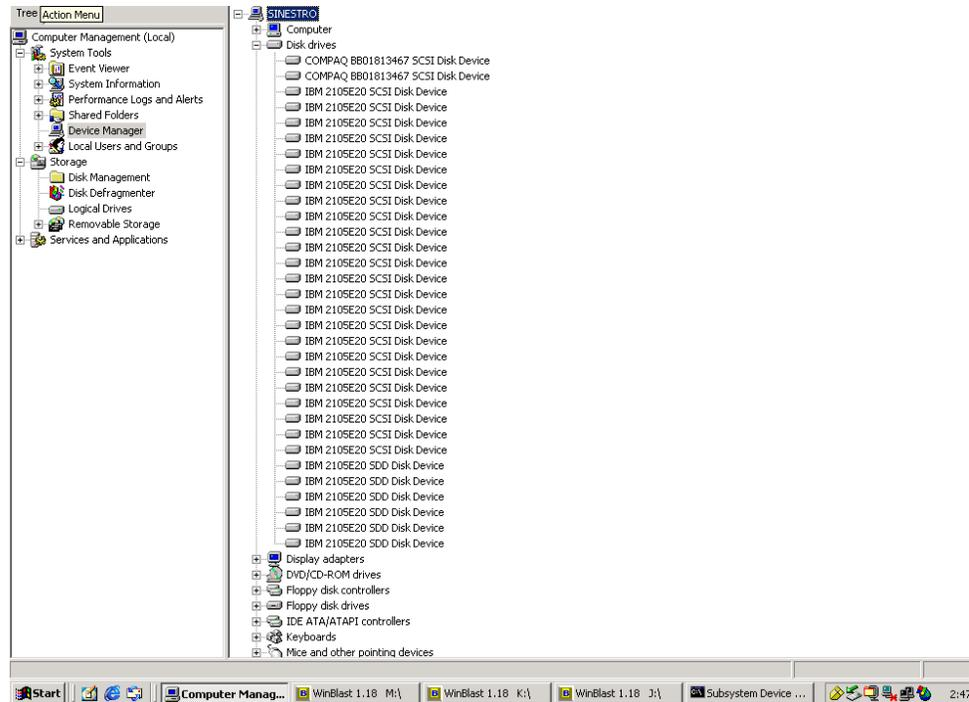

Figure 6. Example showing ESS devices to the host and path access to the ESS devices in a successful SDD installation on a Windows 2000 host system
- Figure 6 on page 250 shows six ESS devices connected to the host and four paths to each of the ESS devices. The Device manager shows six IBM 2105xxx SDD Disk Devices and 24 IBM 2105xxx SCSI Disk Devices.